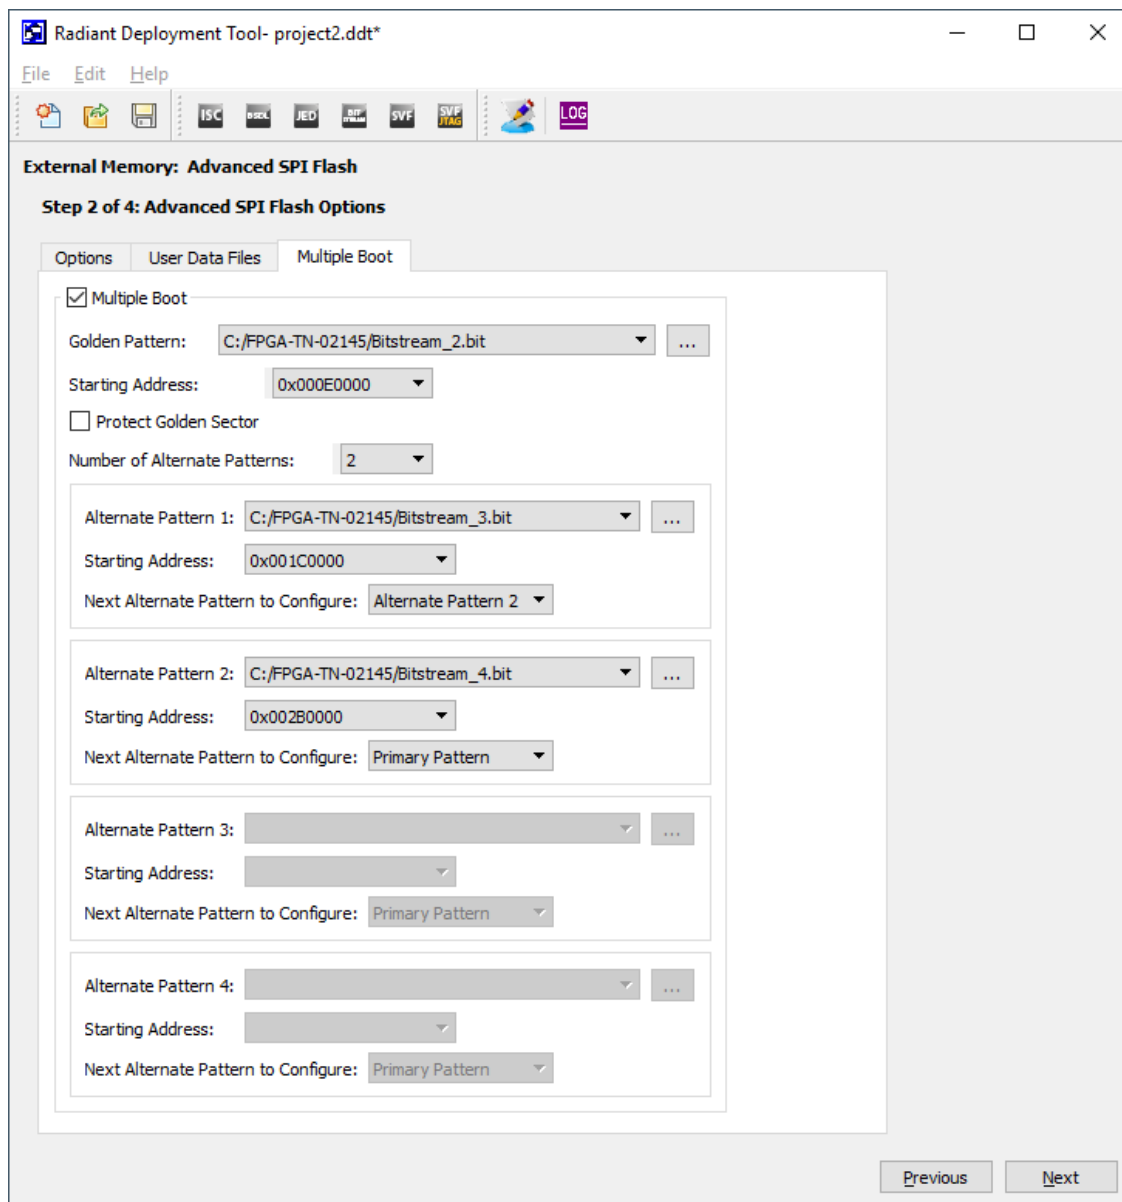

Figure 6.14. Advanced SPI Flash Options – Multiple Boot Tab Window
- Go to the **Multiple Boot** tab (Figure 6.14).